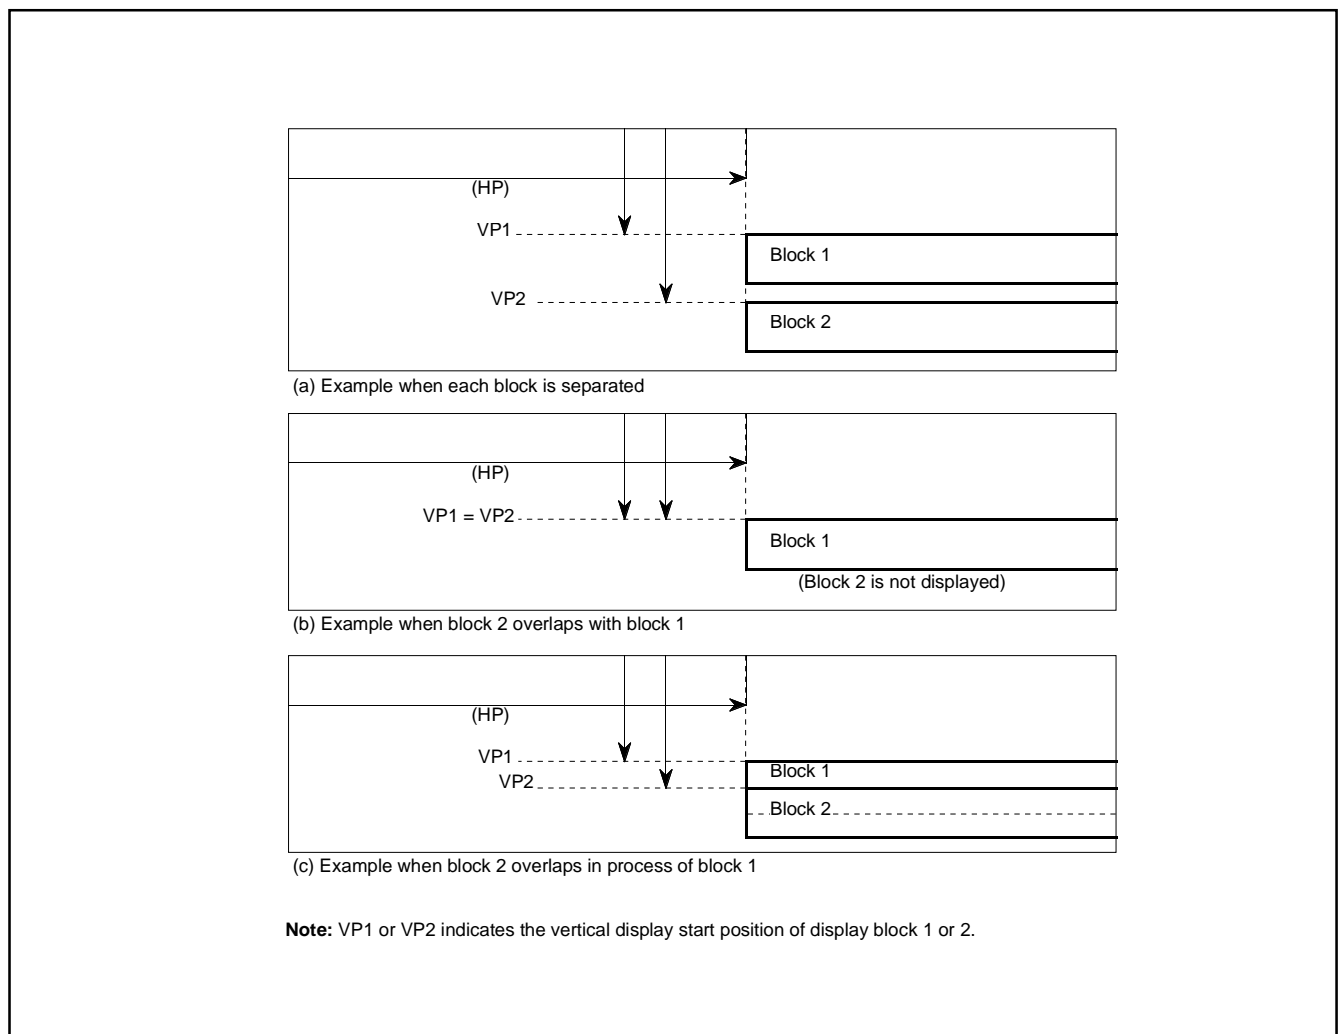

Fig. 8.11.5 Display Position
- When the display position of block 1 is overlapped with that of block 2 (Figure 8.11.5 (b)), block 1 is displayed in front.
- When another block display position appears while one block is displayed (Figure 8.11.5 (c)), the block with a larger set value as the vertical display start position is displayed.